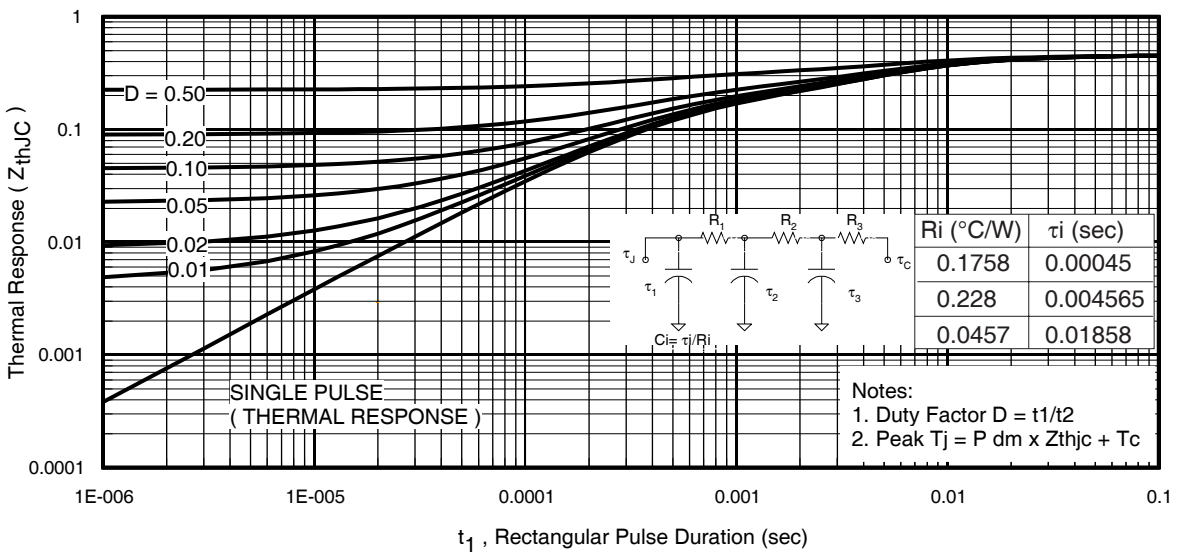

Fig 11. Maximum Effective Transient Thermal Impedance, Junction-to-Case
- ① Repetitive rating; pulse width limited by max. junction temperature. (See fig. 11).
- ② Limited by T_{Jmax} ; starting $T_J = 25^\circ\text{C}, L = 0.17\text{mH}$
$Z_{thJC}(D, t_{av})$ = Transient thermal resistance, see figure 11)